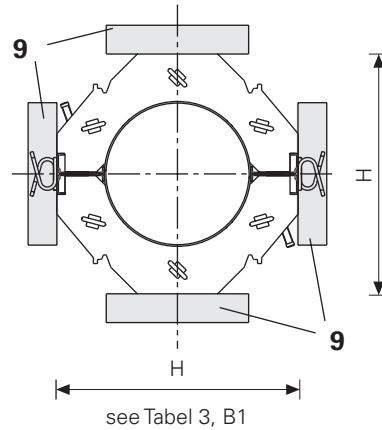

Fig.19
- The "H" dimension and the straight outside edges make it easier to fix the locating boards **9**. Fig. 19